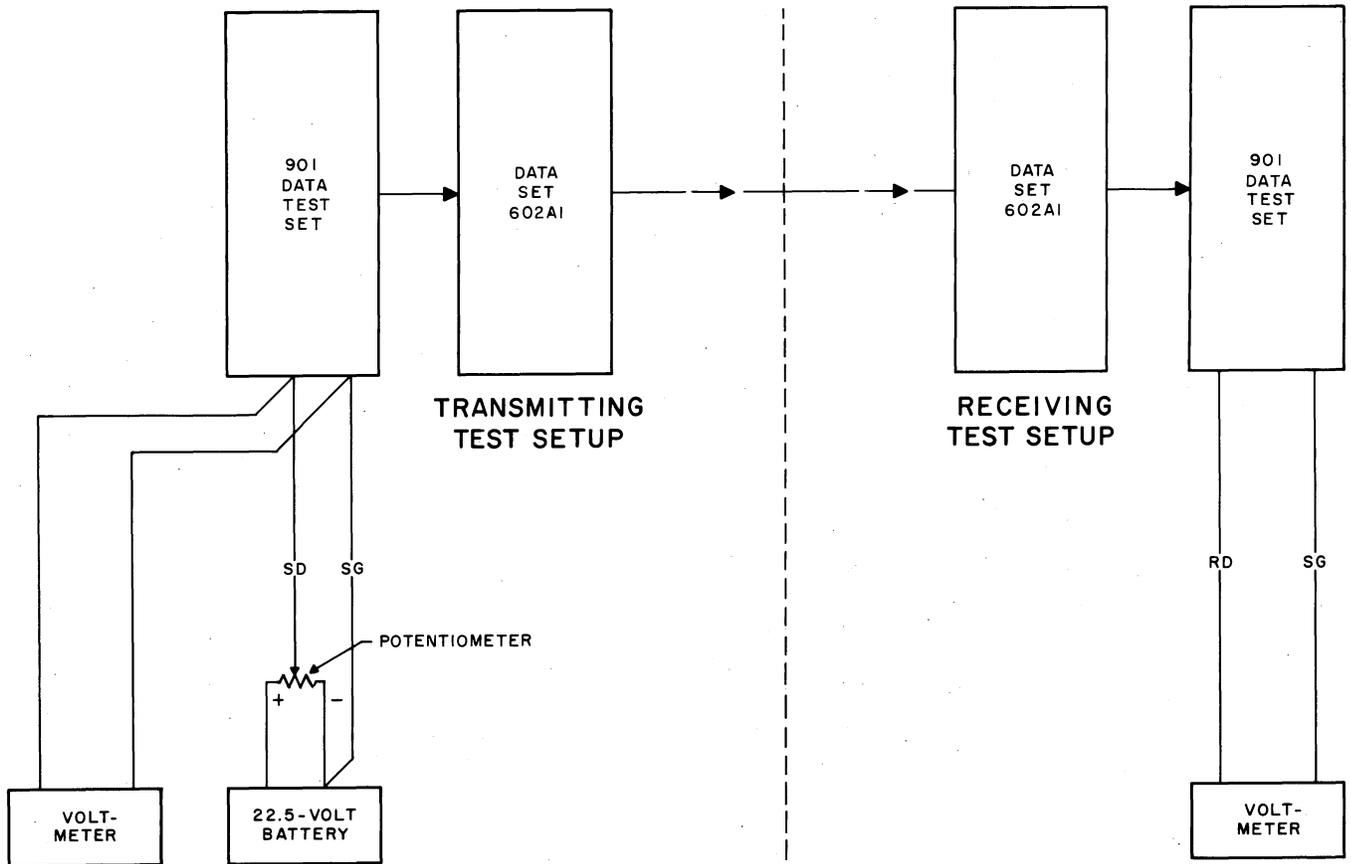

Fig. 5—Block Diagram, End-To-End Test Using Potentiometer Method
**3.19** Figure 5 is a block diagram of end-to-end test using potentiometer and battery method.